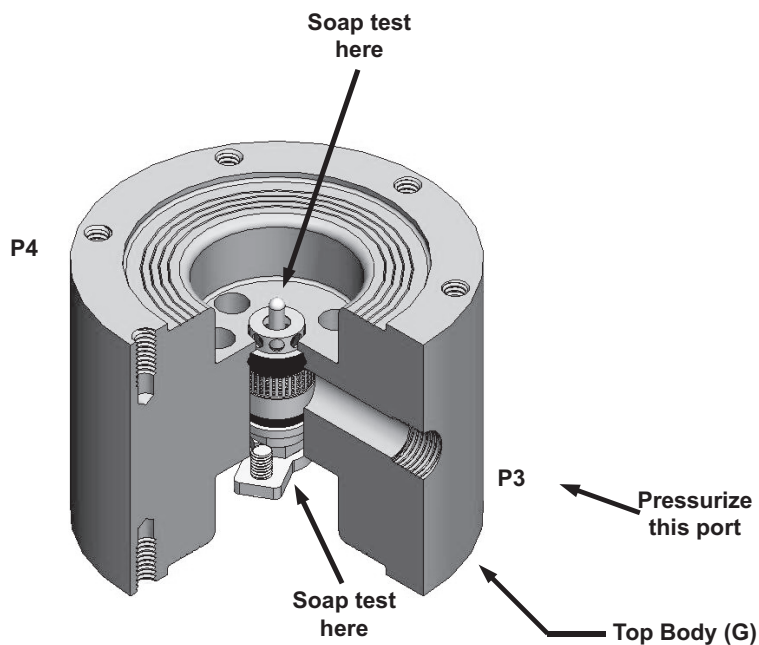
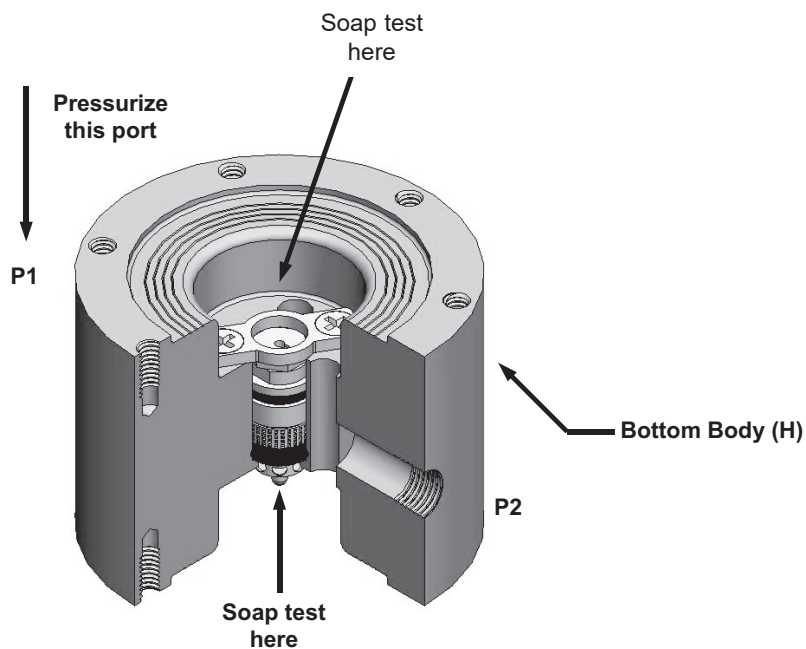

Figure 4
Figure 5
Step 9: Apply approximately 100 psig air to the supply ports. For the **Top Body (G)** the port is marked "P3", and for **Bottom Body (H)** the port is marked "P1".
Step 10: Apply soap around the valve seat and the back end of the retainer, as shown in Figure 4 and Figure 5.
Step 11: If a leak is found, check the o-ring integrity, contamination between the balance valve (D), and the seat (A). Disassemble and repeat steps 1-11. If there are no leaks, move to step 12.